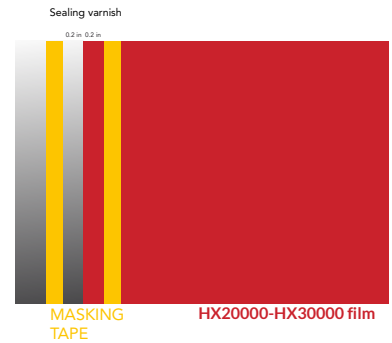

Figure 42
- 1 to the HX20000-HX30000 film at 5 mm (0.2 in.) from its edge. (FIG. 42)